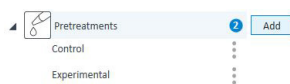

Figure 8 Pretreatment conditions
- Click **Add** next to **Pretreatments**. (See Figure 8.)
- 2 Enter a name for the pretreatment or use the Pretreatment drop-down menu to select a pretreatment from the catalog. The default name when adding new pretreatments is **Pretreatment #** (# corresponds to how many pretreatments have already been added). Figure 8 displays two Pretreatment conditions, **Control** and **Experimental**.